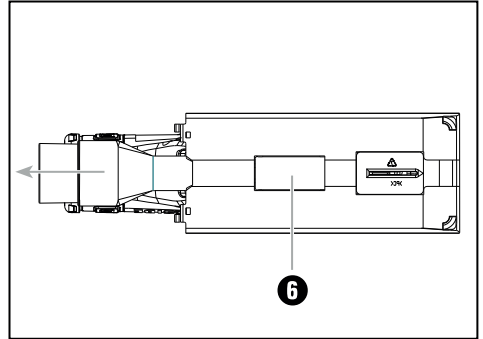

Fig. 2: Removing the extraction nozzle
- ◆ Use your thumbs to press on the position marked in fig. 2 to release the extraction nozzle **6**. At the same time, use your other hand to pull the extraction nozzle **6** out of the appliance in the direction of the arrow.